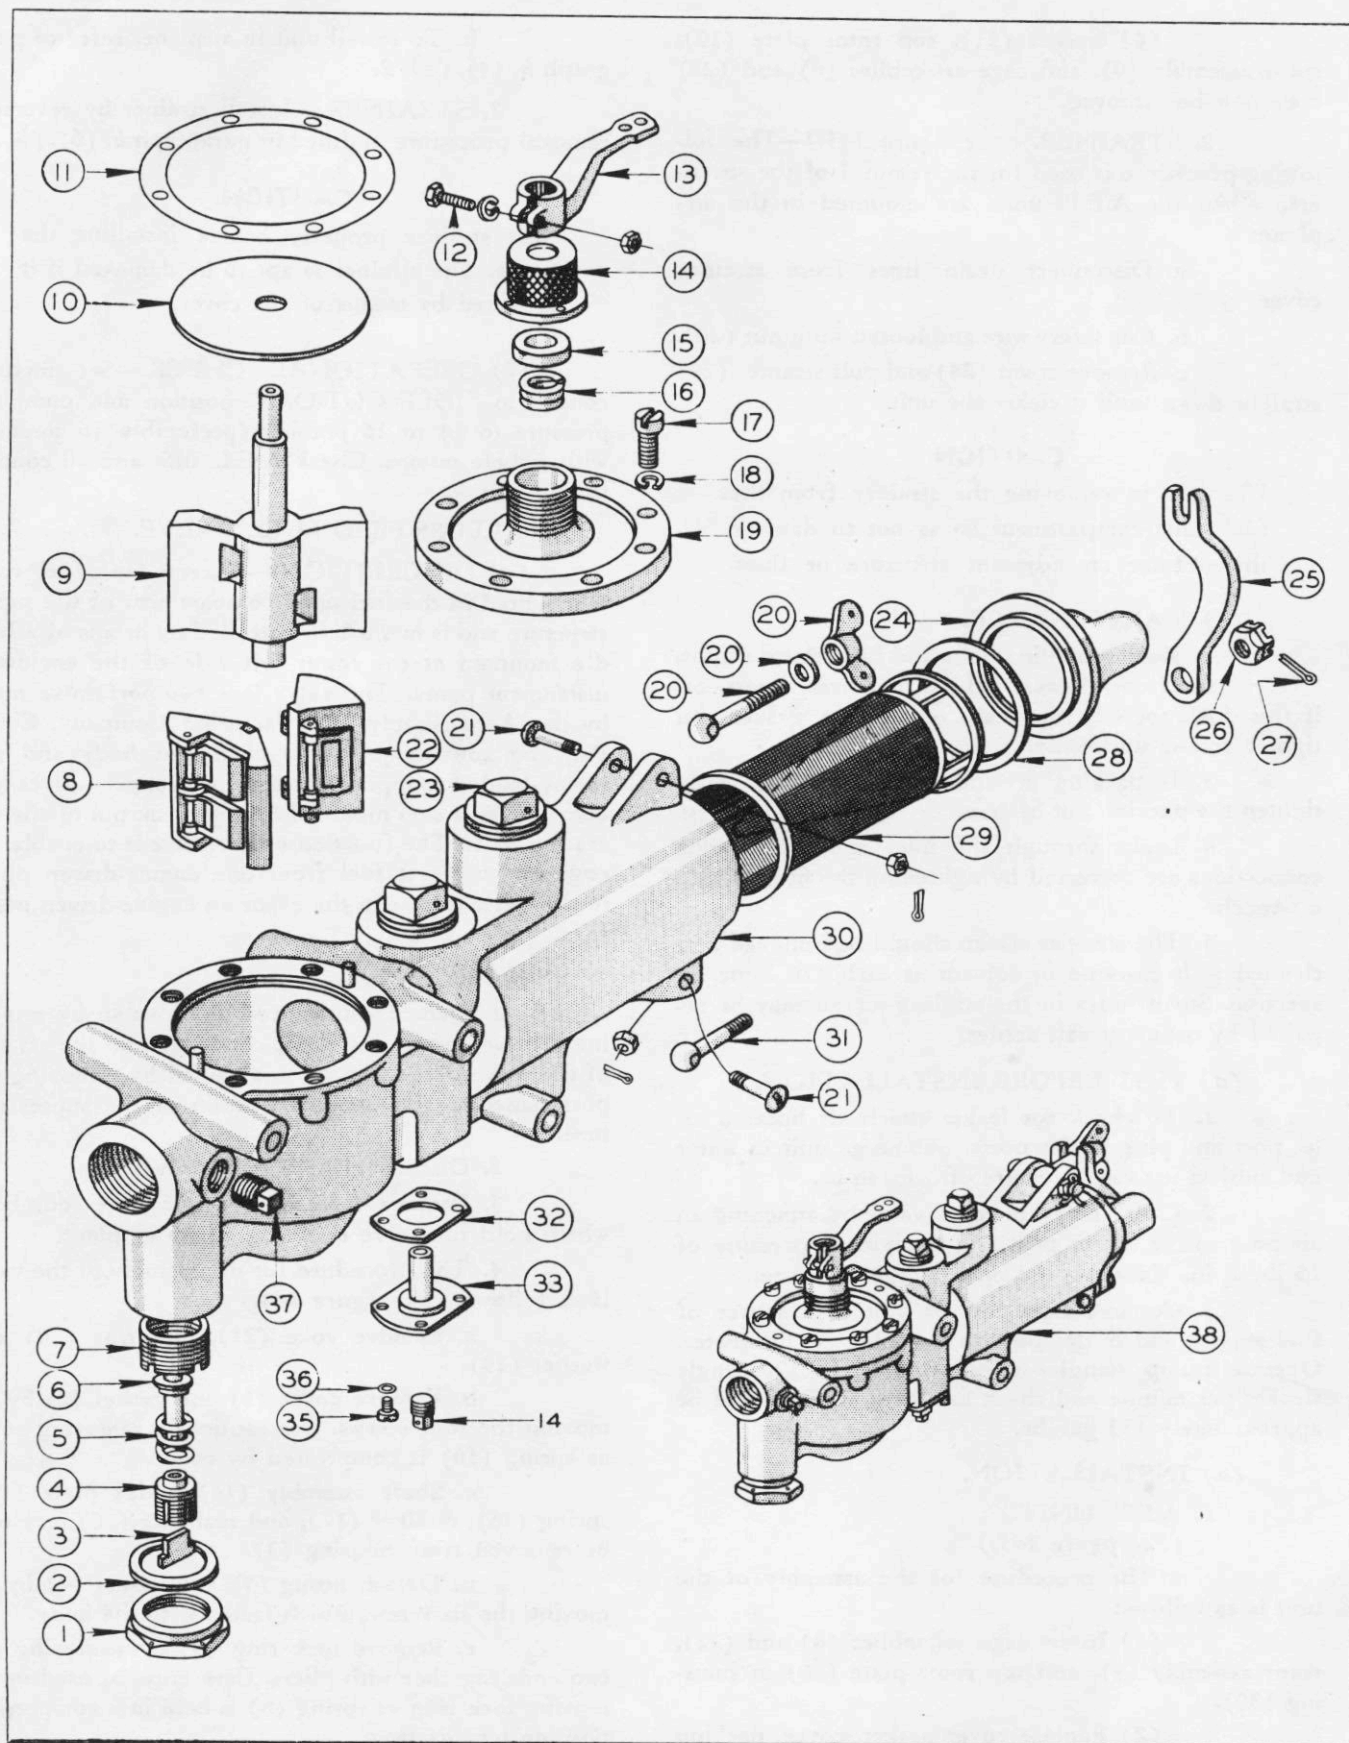

Figure 143—A. E. L. Fuel Unit
b. The procedure for disassembly of the unit is as follows: (See figure 143.)
(1) Loosen wing nut (20) and remove cover (24), gasket (28), and strainer (29).
2. STRAINER. (See figure 143.)—The following procedure is used for the removal of the strainers. When the A.E.L. units are mounted in the airplane:
- b. Cut safety wire and loosen wing nut (20).
- c. Remove cover (24) and pull strainer (29) straight down until it clears the unit.
(See figure 143.)